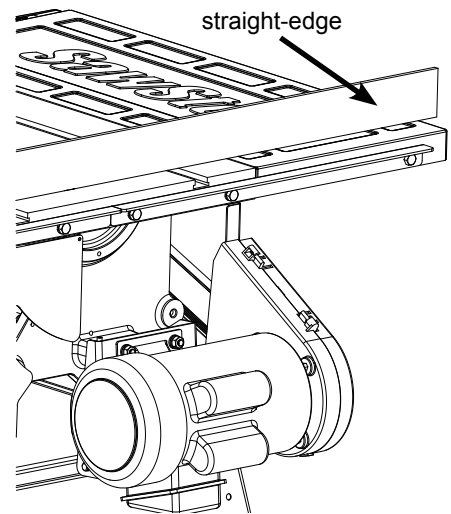

Fig. 7
- Use a straight-edge to level the rear edge of the left extension wing to the cast iron table top (see Fig. 7). You may have to pull up or push down on the outer edge of the extension wing to level it. Once the rear edge of the left extension wing is level, use 13 mm wrenches to fully tighten the hardware that mounts the left rear rail. Repeat this process to level the rear edge of the right extension wing and to secure the right rear rail to the saw.